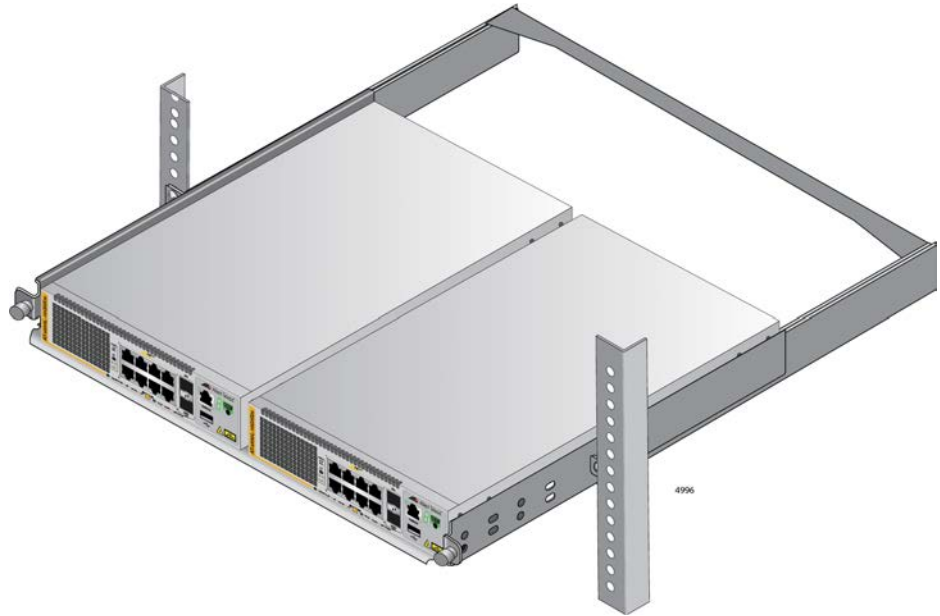

Figure 44. Sliding in the Bracket
10. Slide in the bracket tray. Refer to Figure 44.